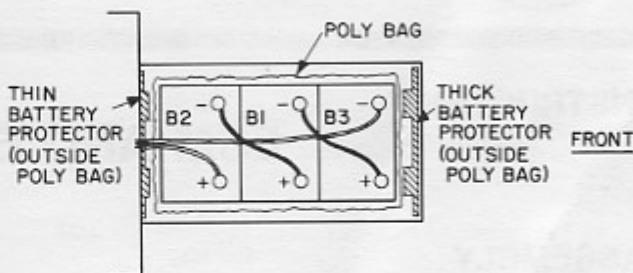

Figure 4
4. Place the thin vacuum-formed battery protector between the poly bag and the rear wall of the compartment and the thick protector in similar fashion at the front of the compartment. Position the protectors so their corrugations will face the battery walls. (See Figure 4.)
5. Carefully set the batteries inside the bag as shown in Figure 4 observing polarity markings. Make sure the sides of the bag remain above the top surface of the batteries in equal amounts. (It may help to tape the upper edges of the bag to the tractor sides temporarily to permit easy insertion of the batteries.)
6. Connect the battery cables in accordance with Figure 4. Observe clamp polarity markings. Coat the terminals after connections are made with a thin film of Battery Terminal Protective Grease, AP31. Make sure all surfaces are coated!